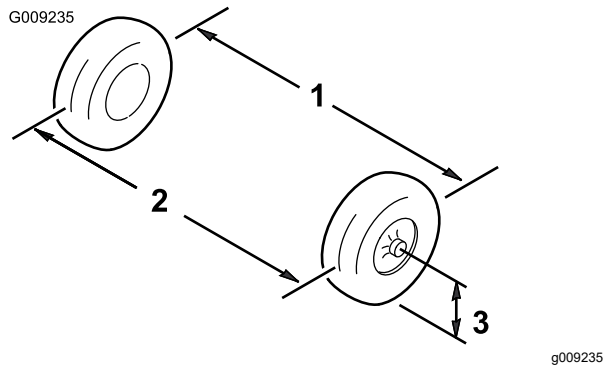

Figure 54
- Measure the distance between both of the front tires at the axle height at both the front and rear of the front tires (Figure 54).